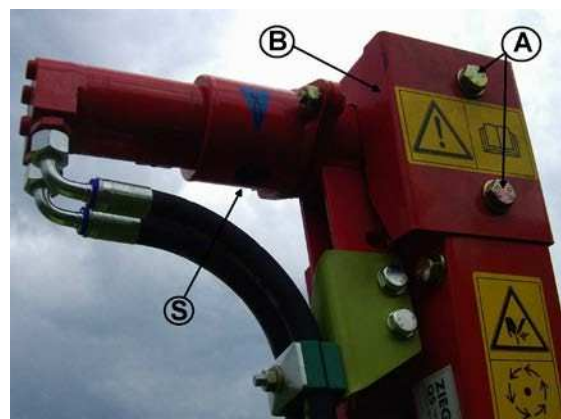

Figure 47
Remove the corresponding protection (B) by unscrewing the hex socket bolts (A). Place the lubrication nipple on the crankshaft over the hole (S). After lubrication, return the corresponding protective parts. (Figure 47)